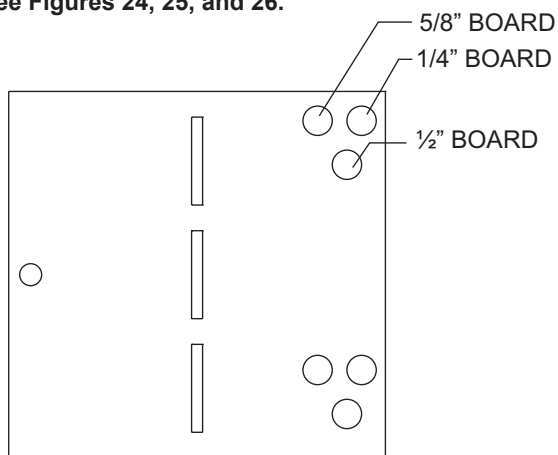
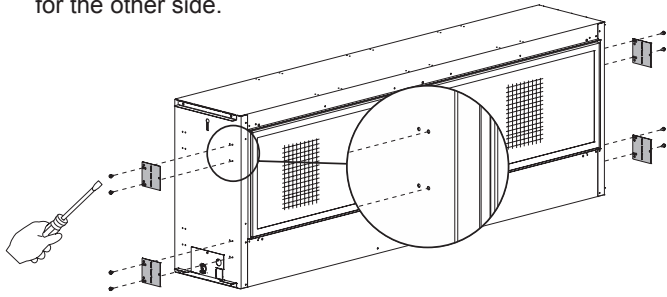

Figure 20
Figure 24 - OPTION 1
2. The holes in the nailing flanges allow for different thickness boards and depths of wall boards. See **Figure 20**. Install nailing flanges with two 10 x 1/2 inch screws (each) in pair of holes closer to the face of the fireplace. Leave the nailing flanges flat until after the fireplace is lifted into the framing. See **Figures 24, 25, and 26**.